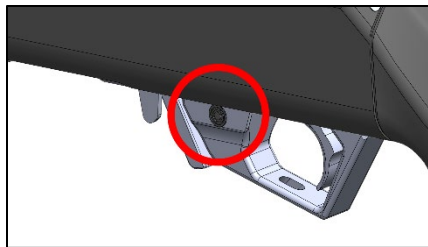

Figure 7 – SAFETY ON/FULL SAFE
- Place the safety button into the “FULL SAFE” position with the red band hidden – Figure 7.